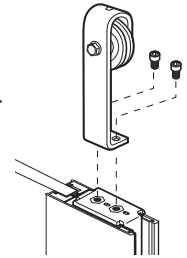

Figure 10
Line up the holes on the Roller Bracket (O) with the U bracket (G) and secure with the 2 allen screws. Repeat with the other Roller bracket (O). See Figure 10.